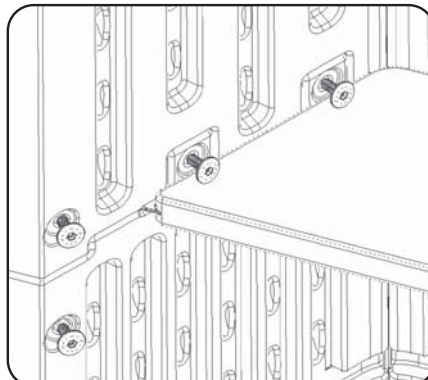

Figure 12
With the bay back upper in position use the EasyBolt[™] (item 5) to bolt the bay walls and the rear corners together. This is to be done in 14 places. Do not over tighten the Easybolts[™] as this may break them or strip the threads. See figure 12 for this detail.